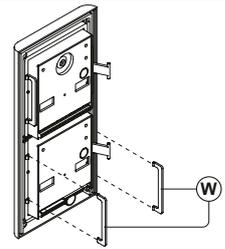

Fig. 6
- Once testing is complete and all the necessary adjustments are made, disconnect the handset from the cover and close the unit as shown in Fig. 6: first hook it on the bottom then push in the top until you hear a "CLICK!".
Fit the anti-tampering locks (W) as shown in **Fig. 6**.